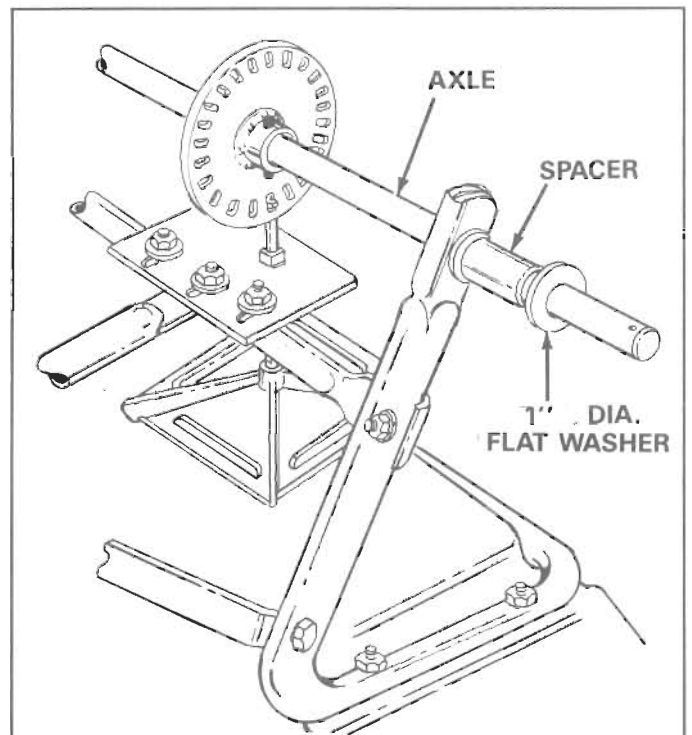

FIGURE 5
- 8. Assemble one spacer, and one 1" dia. flat washer to each side of axle. See figure 5.